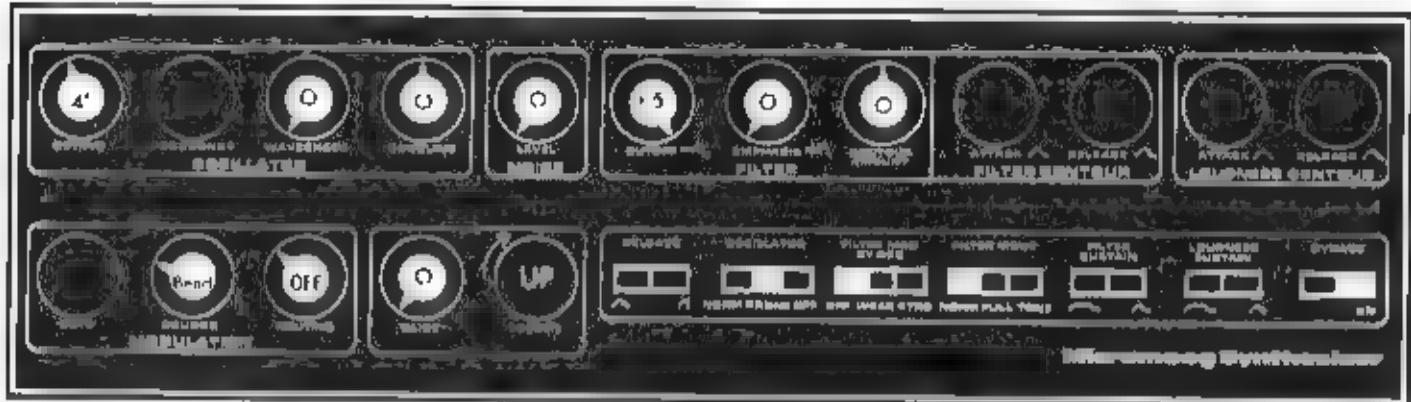

FIGURE 5-1 SOUND CHAIN CHECK
B. No Sound Power Light on. $\pm 15V$ supplies working.	Set controls according to Figure 5-1. Signal trace the following points to locate faulty circuit. 1. Q402 Gate 1 to see if the oscillator (VCO) is running. If running a. Roll NOISE control knob up and down. If noise gets through to the output, then the fault lies in the waveshaper circuit. If noise does not get through b. Check the filter (VCF) output at the emitter of Q513 No output here means that the filter is bad. If our sawtooth is here then c. Check the output of the VCA at IC602B, pin 7. No signal here indicates trouble in the VCA. Otherwise the problem is in the VOLUME pot R612 or the harness w.ring.
G. Oscillator Summing Network Fault.	1. IC301, CR303, Q307, Q308. 2. One of the summing resistors receiving wrong input. With controls set according to Figure 5-1, VO at P2, pin 3 should be within a few millivolts of -40 mV DC (IC301A, pin 1 should be roughly -2.0 volts DC). If VO is far off spec., then check input ends of R302, 330, 331, 339, 343, 371 and 372. You may short each one of these resistors to ground to help locate the troublesome input.
I. VCF not passing signal. Reason undetermined.	Set controls according to Figure 5-1. 1. Insure that input signal of roughly 40 mV p-p appears at base of Q501
L VCA not working.	<p>1 Insure that IC601, pin 2 has 40 mV p-p signal. (See Figure 5-1.) If signal is here, VCA is at fault.</p> <p>2 Possible defective parts: IC601, IC602, Q601, SW601.</p>